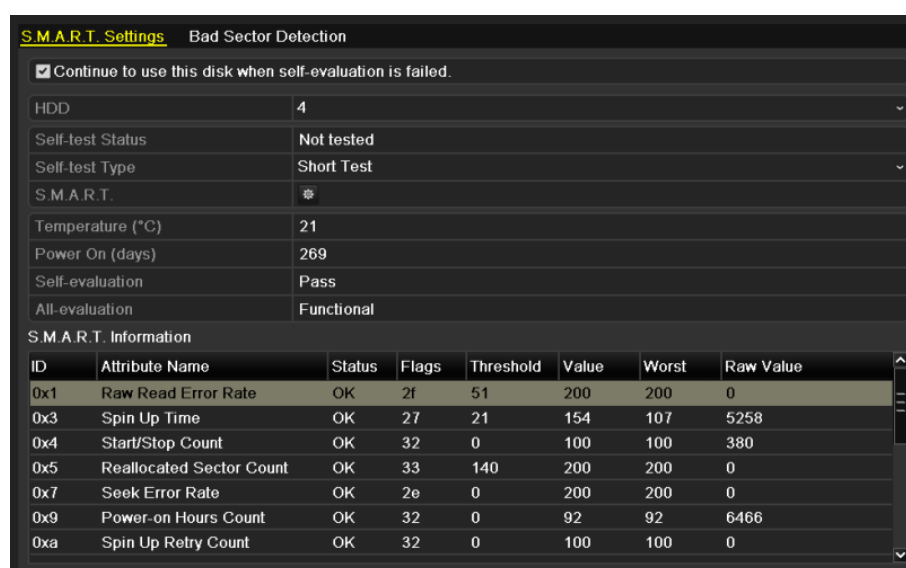

Figure 10. 27 S.M.A.R.T. Settings Interface
2. Select the HDD to view its S.M.A.R.T. information list, as shown in Figure 10. 27.